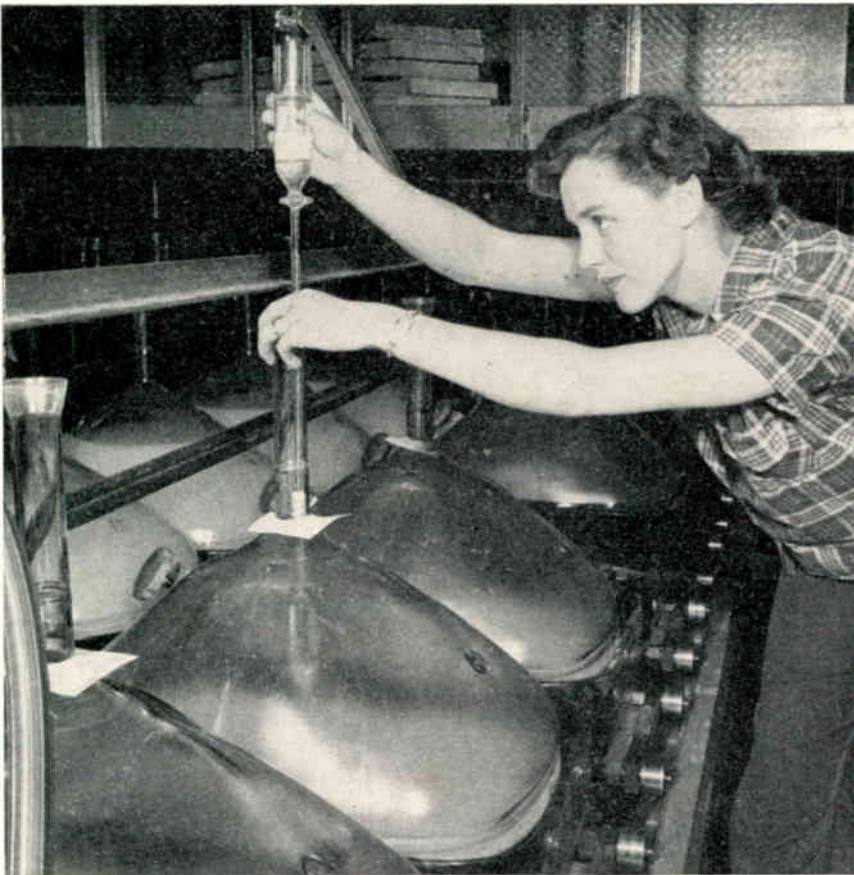

Figure 2. A controlled amount of lacquer is deposited upon the water cushion as the tube passes by on the belt.
1. After the fluorescent screen has been settled and dried, a water cushion is put into the bulb. This water cushion is necessary to provide a very smooth surface upon which a film of lacquer may be deposited. An operator then deposits a controlled amount of lacquer onto the water cushion, as shown in Figure 2. The water cushion, having accomplished its purpose of forming a smooth surface for depositing the lacquer film, is then carefully and gently poured off. The extremely smooth lacquer layer upon the screen is then dried to form the surface upon which the aluminum film is to be deposited. This lacquer layer is required because depositing the aluminum directly upon the rough, crystalline screen surface would result in a non-reflective, black screen rather than the shiny mirror-like surface which is desired.